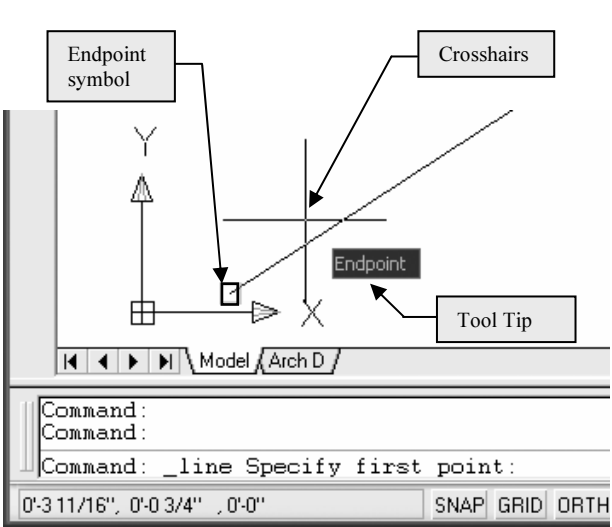

Figure 2-2.6 Endpoint OSNAP symbol visible
- Using the **Line** command, move your cursor to the lower-left portion of the diagonal line (Figure 2-2.6).